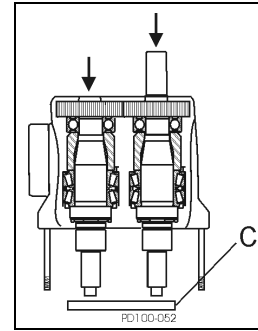

Figure 42 - Press Shafts from Gear Case
5. Place gear case on arbor press with liquid end down. Protect shaft ends with wood or plastic block (Figure 42, item C) and press shafts out of gear case.